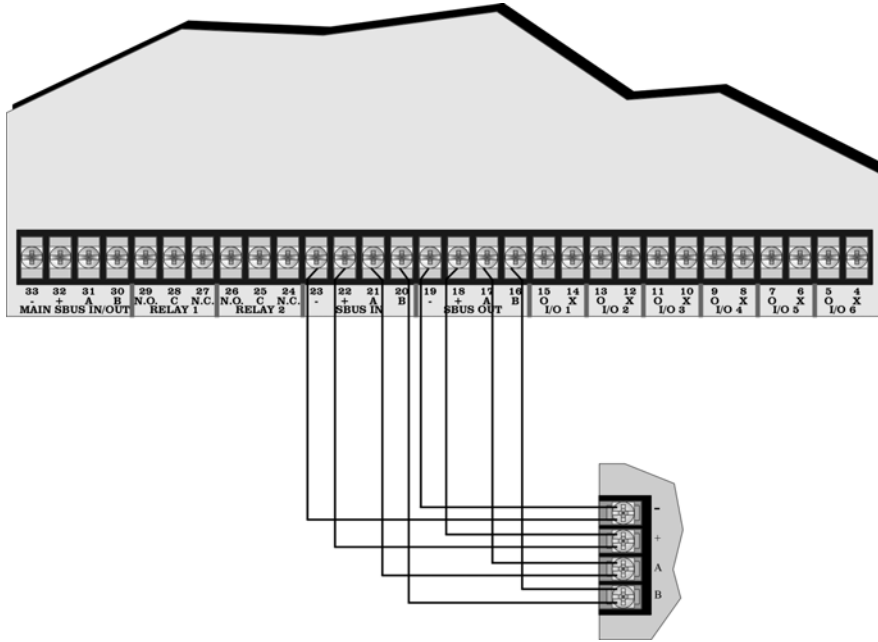
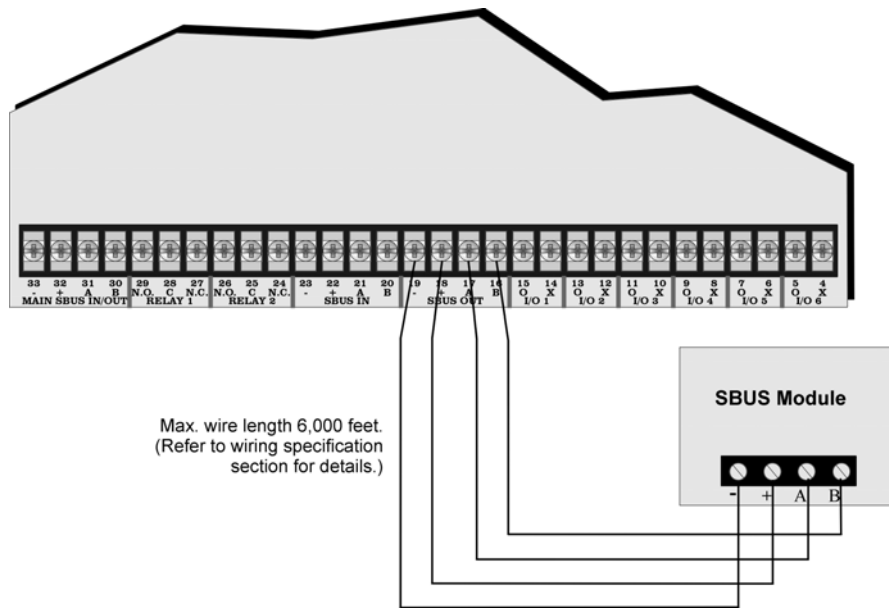

Figure 3.10 SBUS Class A Connection to 5895XL
Figure 3.11 SBUS Class B Wiring to 5895XL
1. Connect SBUS modules to the 5895XL as shown in Figure 3.10 or Figure 3.11.